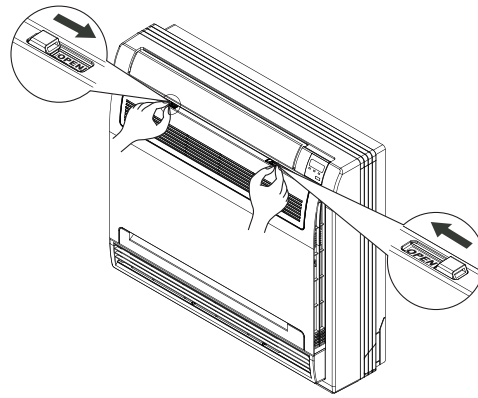

Fig. 9 — Open the Front Panel
1. Open the Front Panel sliding the two stoppers towards the middle of the indoor unit (see Fig. 9).